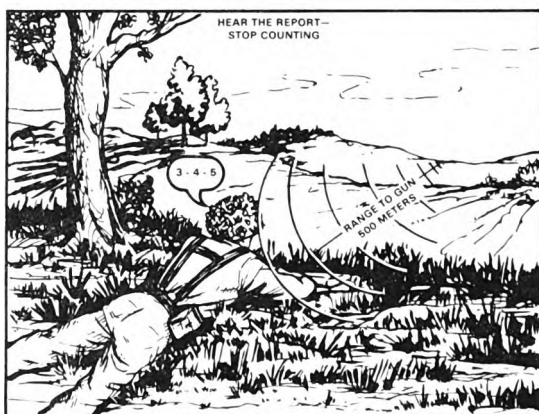

Figure 1.
3. **Flash-and-Sound Method** (figures 1 and 2). When you see the flash or smoke of a weapon or the dust it raises, immediately start counting at a rate of three counts per second. Stop when you hear the report of the weapon. The number you are counting when you stop is the approximate distance to the weapon in hundreds of meters. For example, if you stop on the number three, the distance is about 300 meters. Practice counting at three counts per second. This can be done with blank ammunition fired at known distances, or by having someone time you while you count. When counting at the correct rate, you should count to 30 in 10 seconds. Practice until your timing is correct.